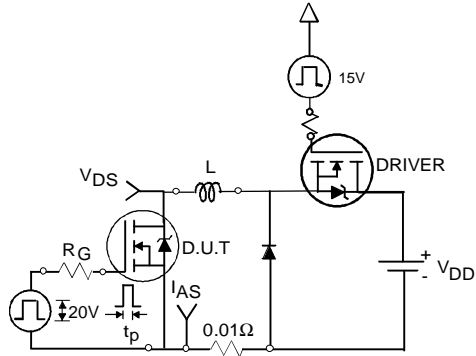

Fig 12a. Unclamped Inductive Test Circuit
3. Equation below based on circuit and waveforms shown in Figures 12a, 12b.
- ④ Pulse width $\leq 400\mu\text{s}$; duty cycle $\leq 2\%$.
- ⑤ C_{oss} eff. is a fixed capacitance that gives the same charging time as C_{oss} while V_{DS} is rising from 0 to 80% V_{DSS} . Refer to AN-1001
- ⑥ Calculated continuous current based on maximum allowable junction temperature. Package limitation current is 95A.
- ⑦ Limited by T_{Jmax} , see Fig.12a, 12b, 15, 16 for typical repetitive avalanche performance.